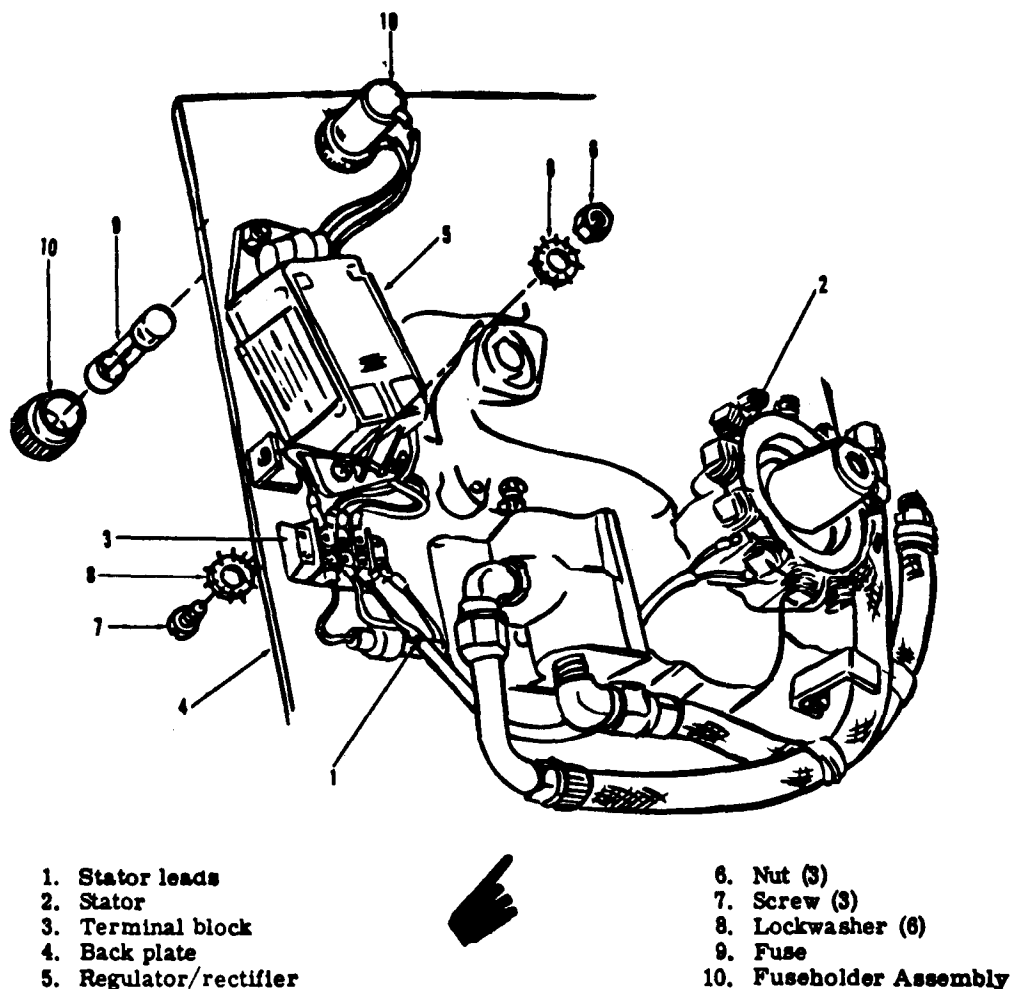
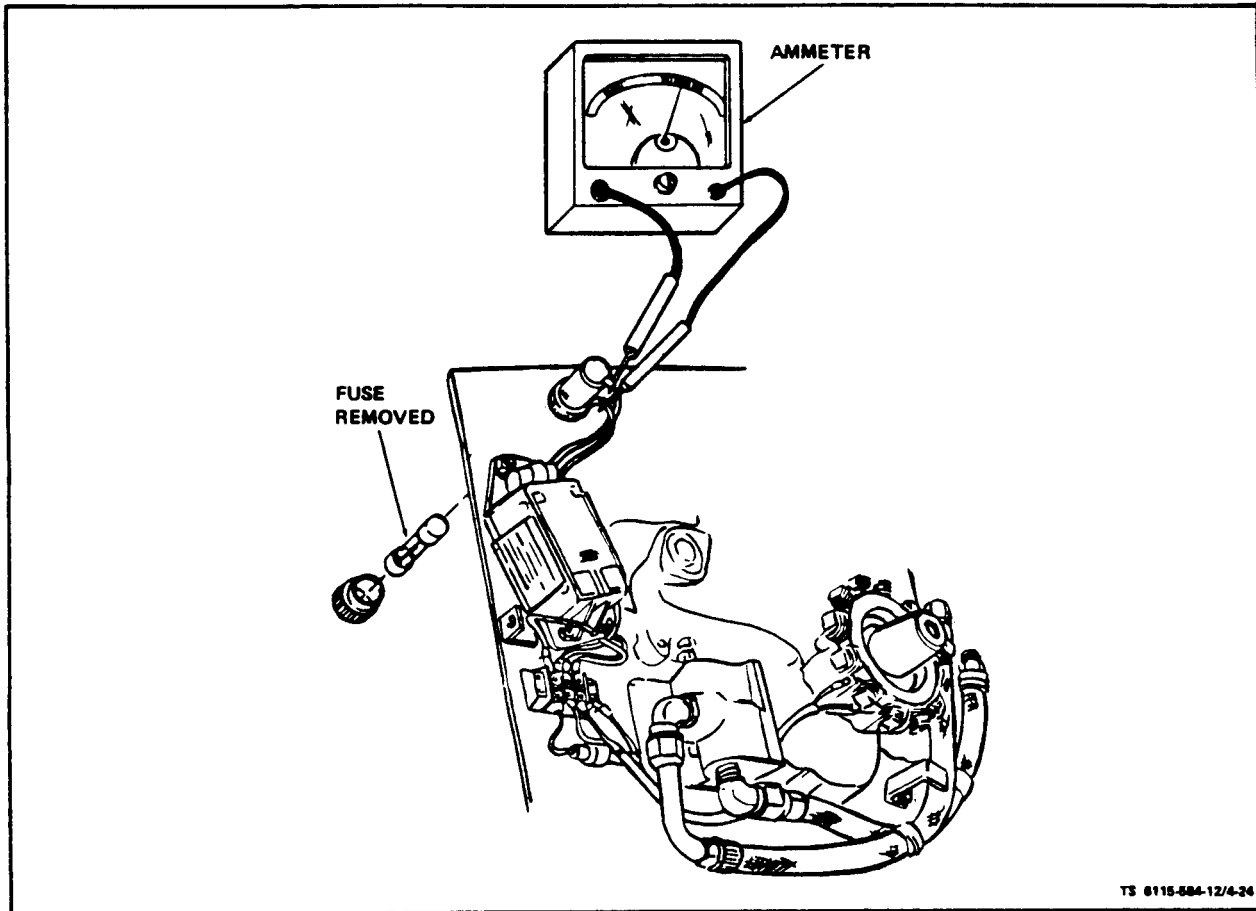

Figure 4-23. Battery Charging Alternator
Figure 4-24. Testing Battery Charging Regulator/Rectifier Assembly
a. Battery Alternator Stator (see figure 4-23). On ASK equipped generators; remove ASK cover assembly (para 5-3).
(1) Remove blower housing (see paragraph 4-17).
(2) Inspect. The presence of the blower wheel limits inspection of the battery alternator to inspecting that two leads (1) from stator (2) are free of damage and are not rubbing against blower wheel and are securely connected to terminal block (3) located on engine back plate (4).
b. Battery Charging Regulator/Rectifier Assembly (see figure 4-23).
(1) Inspect. Inspect regulator/rectifier assembly (5) for physical damage. Check that leads from assembly to terminal block (3) are not damaged or frayed. Check that assembly is securely mounted to engine back plate (4).
(2) Test.
(b) Remove fuse (9, figure 4-23) and connect a 10 amp ammeter across the fuse holder terminals as shown in figure 4-24. With engine operating normally at 1800 RPM, charge rate should be no less than 6.5 amps when loaded by a discharged battery. Charge rate should taper-off as battery becomes charged.
(3) Remove (see figure 4-23). Disconnect and tag leads on regulator/rectifier assembly. Remove screws (7), washers (8) and nuts (6) attaching assembly to engine back plate and remove assembly.
(4) Replace. Attach assembly to engine back plate with three screws (7), six lockwashers (8), and three nuts (6). Attach tagged leads from assembly.
c. Battery Charger Circuit Fuse (see figure 4-23).
(1) Inspect. Inspect fuse (9) for physical damage. Check that end caps on fuse are free of corrosion. Check that fuse is properly mounted in fuse holder.
(2) Test. Test fuse (9) for continuity using an ohmmeter. Replace fuse that does not show continuity.
(3) Replace. Remove fuse holder cap and remove fuse. Install new fuse in fuse holder body and attach fuse holder cap.
d. Terminal Block (see figure 4-23).
(1) Inspect. Inspect terminal block (3) for physical damage. Check that electrical connections to block are clean and tight. Check that block is securely fastened to engine back plate (4).
(2) Test. Tag and disconnect leads to terminal block. Check to see that there is no continuity between terminals on terminal block and ground.
(3) Replace. Tag and disconnect leads at terminal block. Remove two screws and nuts attaching block to engine plate and remove block. Attach new terminal block to engine back plate with two screws and nuts. Connect previously tagged leads to terminal block. Remove tags. On ASK equipped generators, install ASK cover assembly (para 5-3).